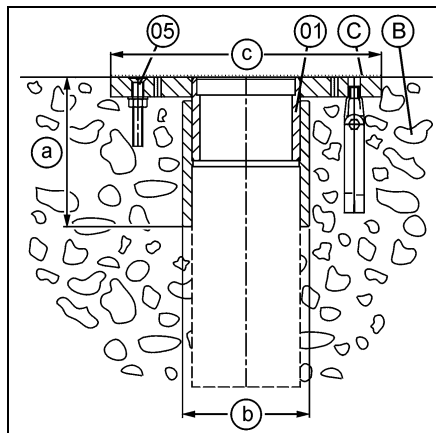
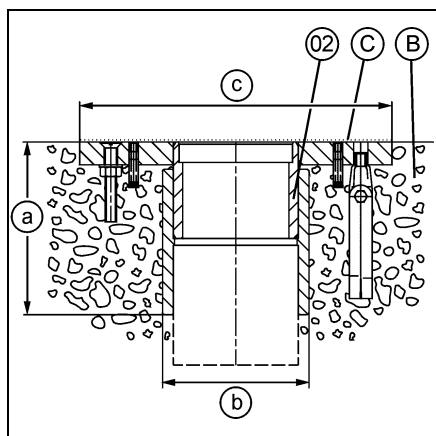
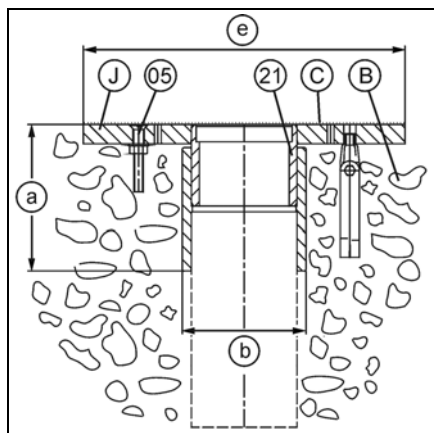

Fig. 1
Fig. 2
Fig. 3
see Fig. 1, Fig. 2 and Fig. 3.
The installation kit is available in designs for concrete tile pools (01) (Fig.1), concrete liner pools (02) (Fig. 2) and concrete pools with brush-applied sealant (21) (Fig.3).
Remove the protection film C (Fig. 1) from the installation kit (01).
Remove the protection film C (Fig. 1) from the installation kit (02).
Remove the protection film C (Fig. 1) from the installation kit (21).